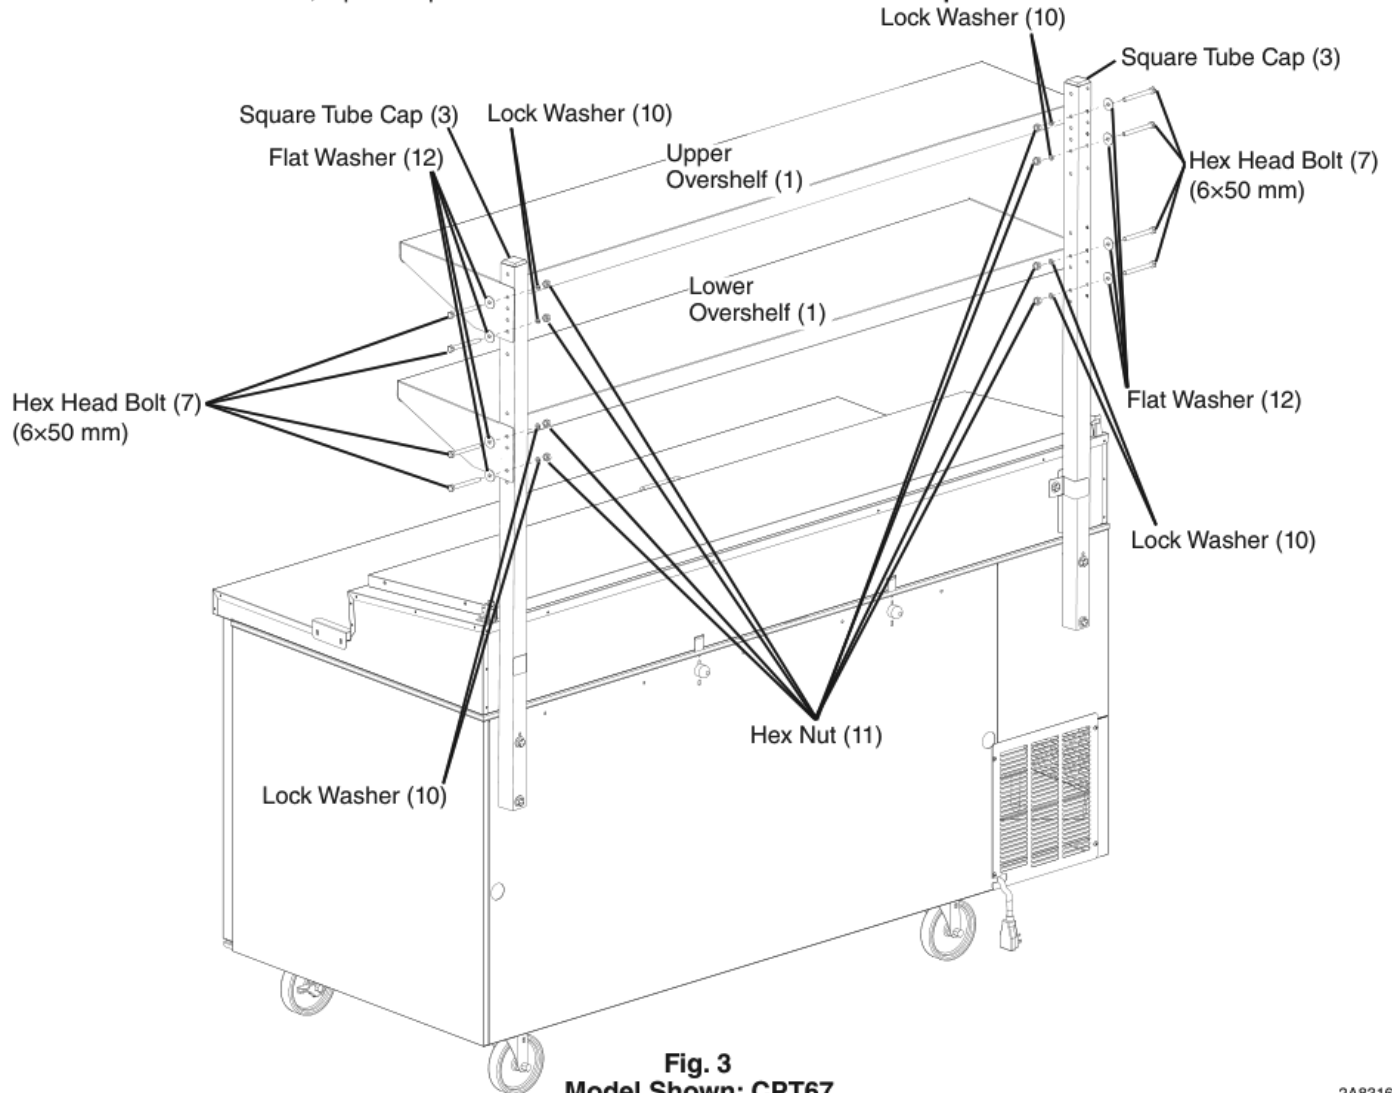

Fig. 3
6) Using 6x50 hex head bolts (7), lock washers (10), flat washers (12), and hex nuts (11), place overshelf (1) in position and snug both sides of overshelf (1) to square tube (2). See Fig. 3.